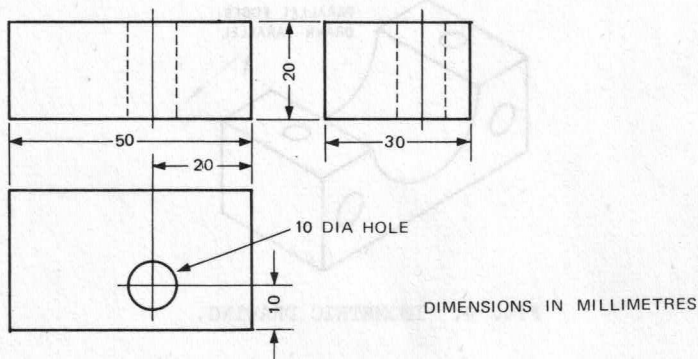

FIG. 11. DIMENSIONING.
4.3 DIMENSIONING. The inclusion of all relevant distances, sizes and location on a drawing is known as dimensioning. Fig. 11 shows typical examples of dimensioning. The main symbols used in dimensioning are:
The value of a dimension is usually shown by figures or notes placed in a gap in a dimension line or at the end of a leader. (Fig. 11).